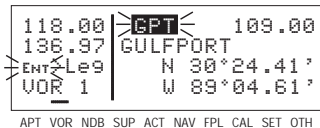

Figure 4-16
- Press **ENT** to display the waypoint page on the right side for the identifier just entered (figure 4-16).